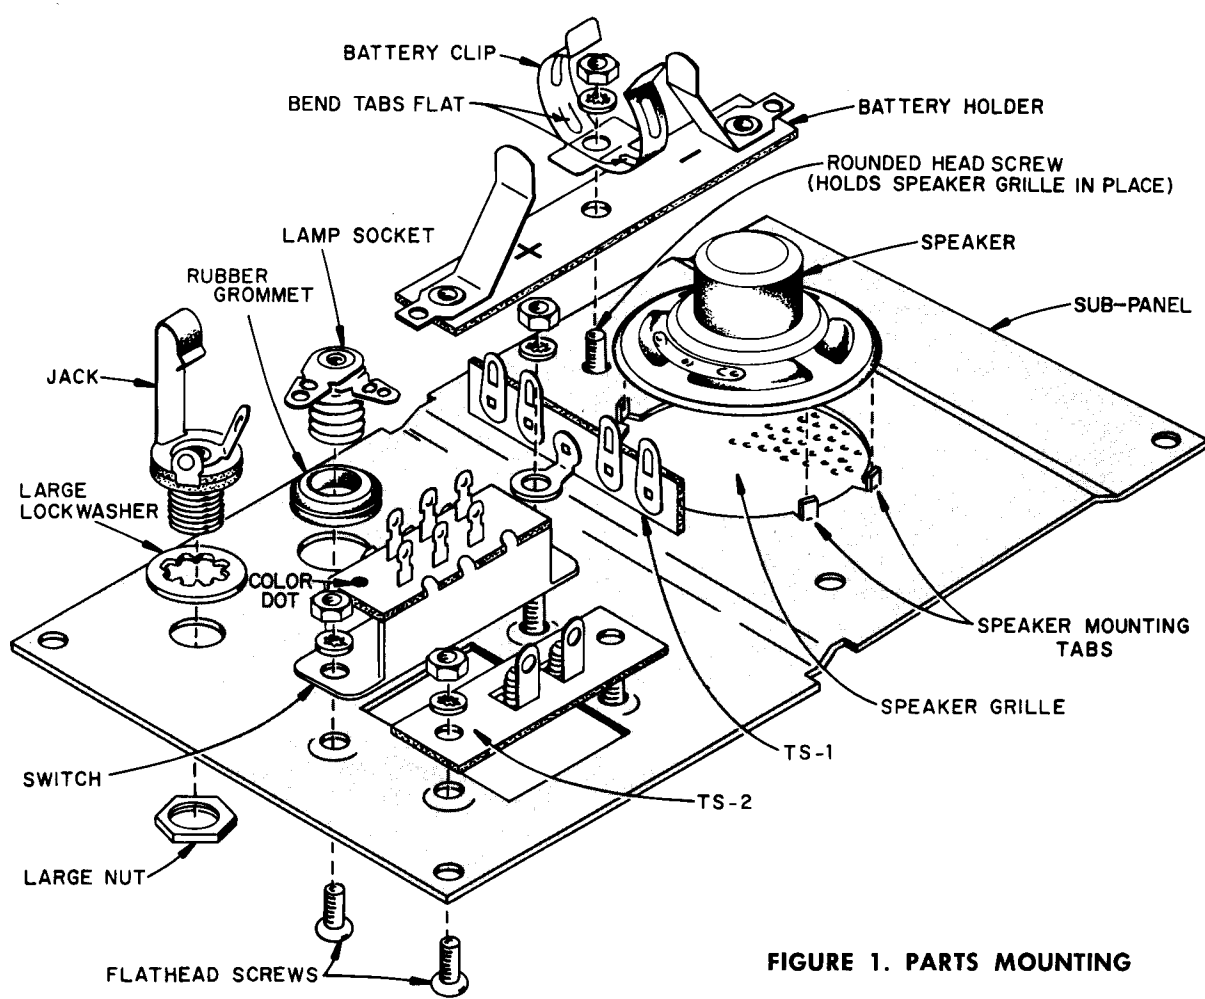

FIGURE 1. PARTS MOUNTING
- Check each part against the parts list. Use FIGURE 1, to help you identify the parts.
### SEE FIGURE 1.
- Go back and check your work against Figure 1 to be sure that all of the parts are correctly mounted.